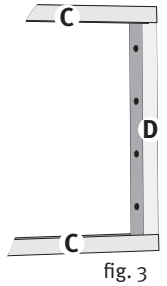

fig. 3
5. To finalise Frame Screw Top/Bottom Capping (C) to End Rails (D). (fig.3)